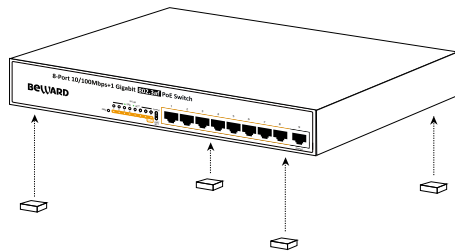

Figure 2-5: Place the PoE Ethernet Switch on the Desktop
Step 1: Attach the rubber feet to the recessed areas on the bottom of the PoE Ethernet Switch, as shown in Figure 2-5.